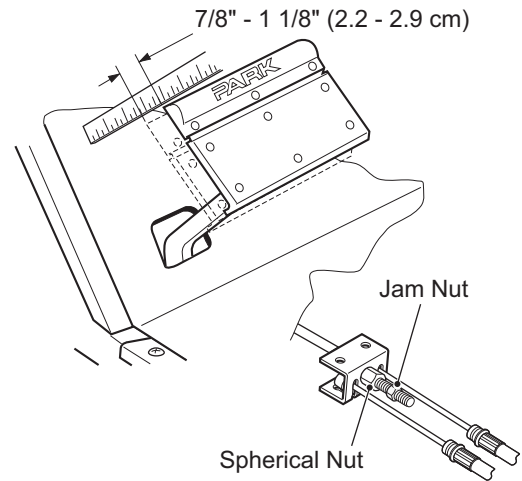

Fig. 17 Free Travel Adjustment
1. Pre-adjust the service brake pedal free travel to the correct setting by loosening the jam nut and adjusting the spherical nut (Ref Fig. 17).